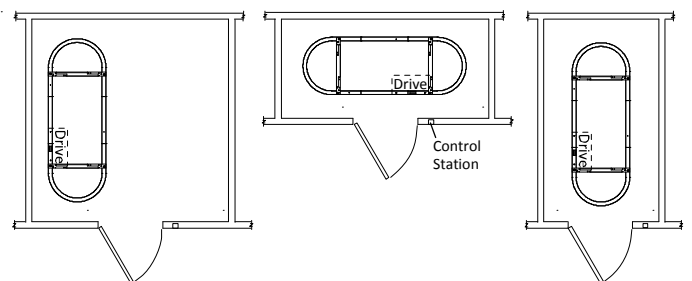
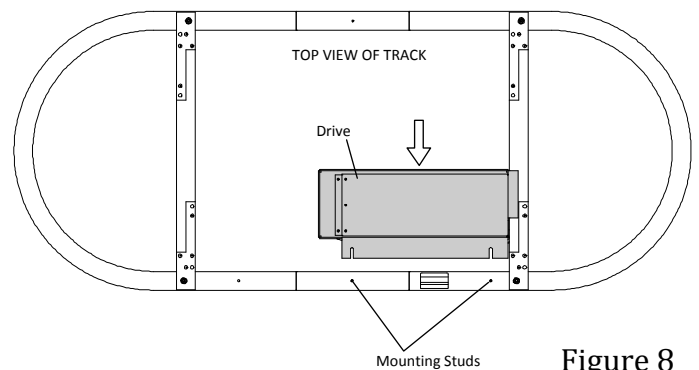

Figure 4
Figure 8
- Identify the rectangular cutout and mounting studs at the top of the track (see Figure 8). This is where the drive will mount. Orient the track with the drive closest to the doorway or opening from which the carousel will be operated as shown in Figure 4.
- a. Remove two 1/4 inch hex nuts and washers from drive mounting studs on the track (see Figure 8).